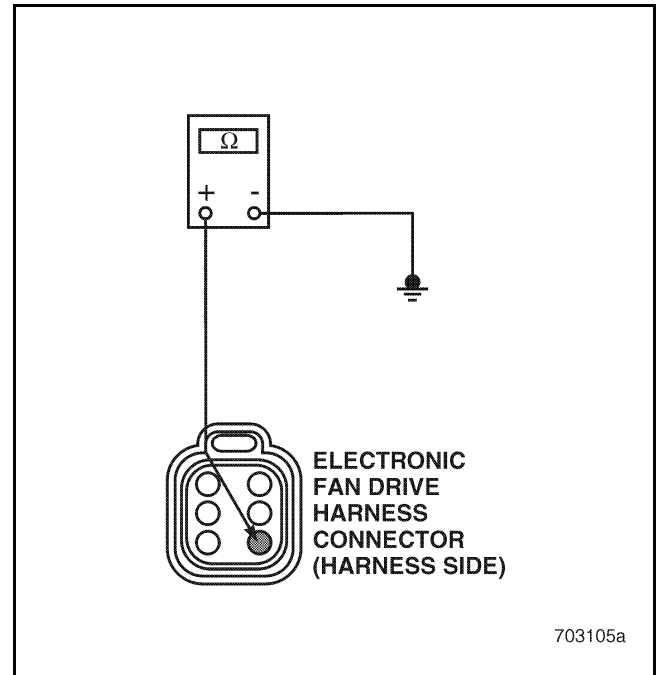

Figure 539
4. Check for continuity between Electronic Fan Drive harness connector pin 4 and a good ground (see Figure 539).